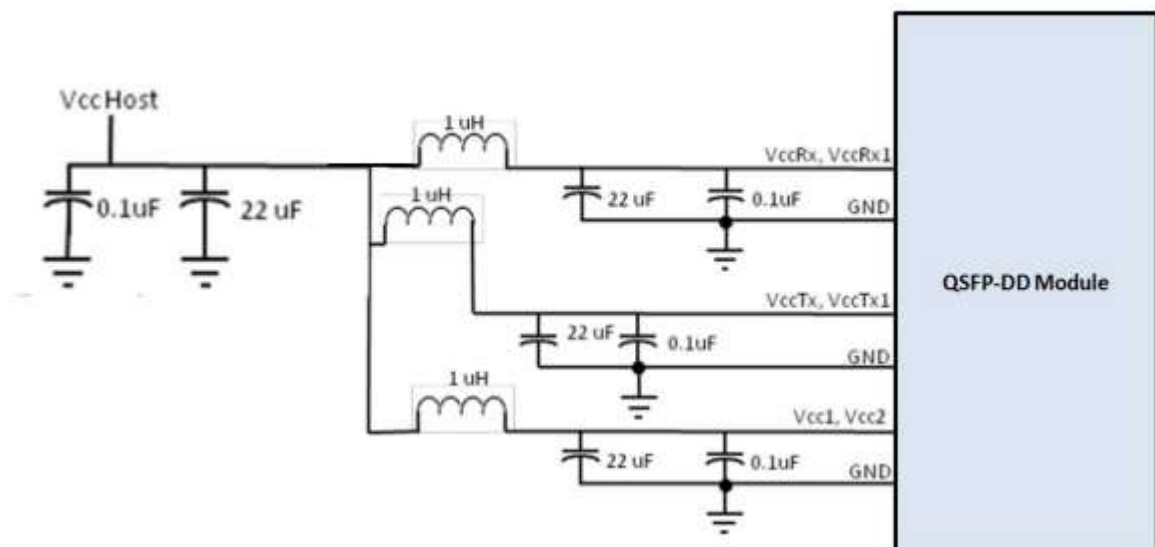

Figure 4 Power supply Filter
2. VccRx, Vcc1 and VccTx, VccRx1, Vcc2 and VccTx1 are the receiving and transmission power suppliers and shall be applied concurrently. Recommended host board power supply filtering is shown in Figure 4 below. VccRx, Vcc1 and VccTx, VccRx1, Vcc2 and VccTx1 may be internally connected within the module in any combination. The connector pins are each rated for a maximum current of.